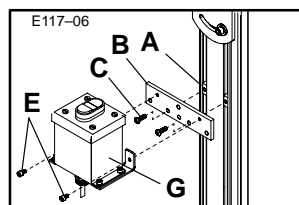

Figure 6: Start-Stop Box Vertical Mounting to Aluminum Support Stand Leg
- b. Attach the Pushbutton Box assembly to the Leg channel in the manner shown in Figure 6. Attach the Pushbutton Box assembly with Mounting Brackets (in the same way it was packaged, when shipped) to the two Single Drop-in T-bars, using the M6 x 16 mm Button Head Cap Screws. Tighten Screws with 4 mm Hex Key Wrench provided.